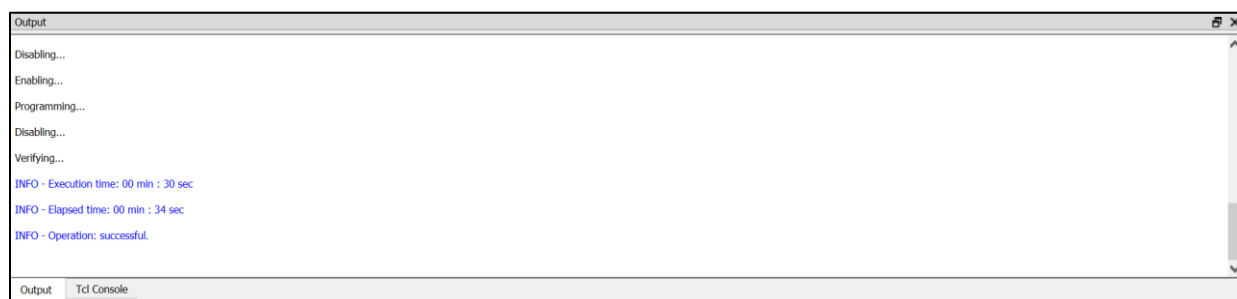

Figure 4.7. Radiant Programmer – Output Console
7. After successful programming, the **Output** console displays the result as shown in Figure 4.7.